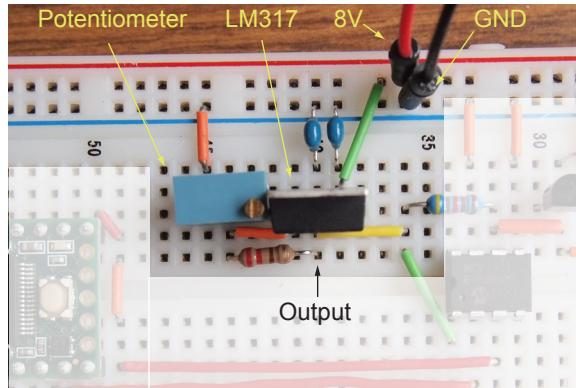
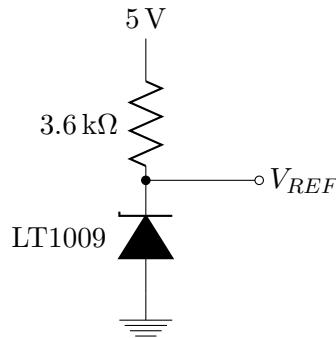
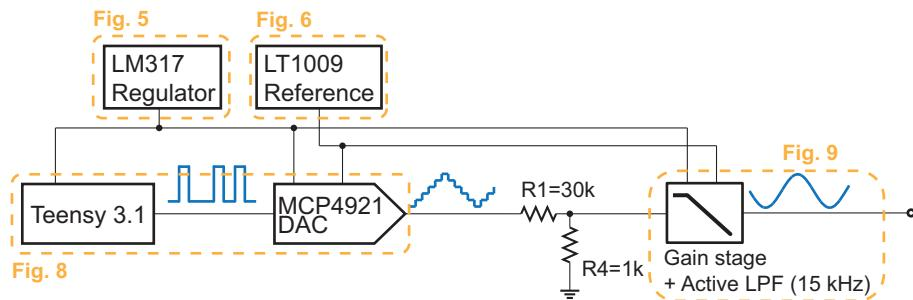

Figure 8: An example breadboard layout of the circuit in Fig. 8.
Figure 9: Schematic of the LT1009 precision voltage reference circuit.
Figure 18: Block diagram of the PCB design.
1. Using Fig. 8 as a reference, build the regulator circuit on the breadboard. You should be able to find the LM317 pinout diagram from its datasheet, which you find from online. *As a general suggestion, it is important to keep your circuit well laid out and keep the connecting wires as short as possible. Cut the wires to the right length if necessary.* Fig. 9 shows an example breadboard layout for the LM317 regulator circuit in this lab.
Design a PCB incorporating the circuits of Fig. 8, 10, 13, and 15. We will add a resistive attenuator circuit just so that the output does not easily saturate. Fig. 18 shows a high level block diagram of the PCB.